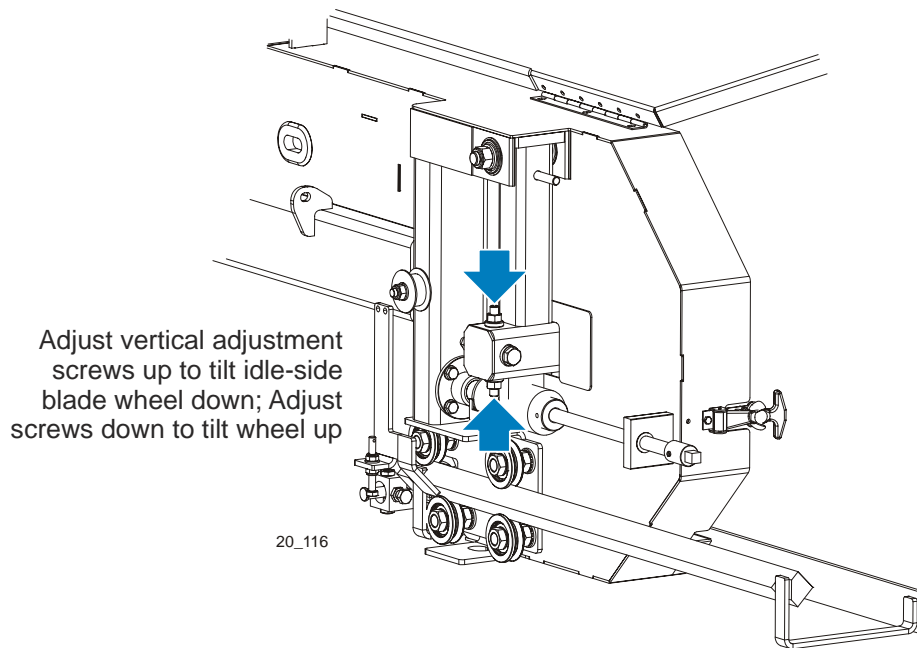

**FIG. 5-4**
**See Figure 5-4.** Use the vertical adjustment screws to adjust the drive-side blade wheel. To tilt the wheel, loosen the top adjustment screw one quarter turn. Loosen the jam nut on the bottom adjustment screw and tighten the screw. Tighten the top and bottom jam nuts.